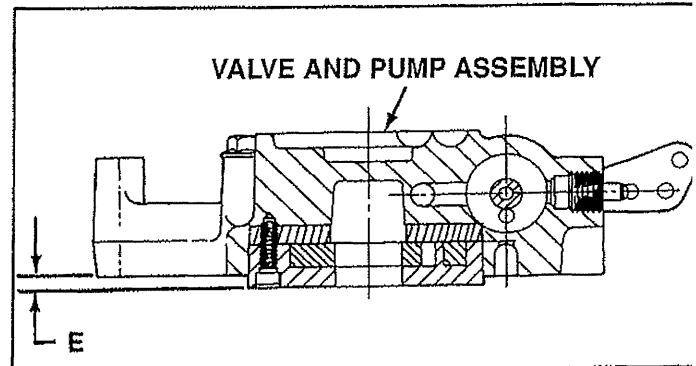

Figure 2-6. Determine Input Shaft Bearing Thickness
1. If the original valve and pump assembly (4) are to be reinstalled, return all shims to their original positions.
2. If pump assembly (202) is replaced, determine shim thickness for input shaft (28) bearing as follows:
- a. Measure and record dimension E, figure 2-6 on both the new and old pumps.
3. Install valve and pump assembly (4) with extreme care so as not to dislodge any shims (6). If